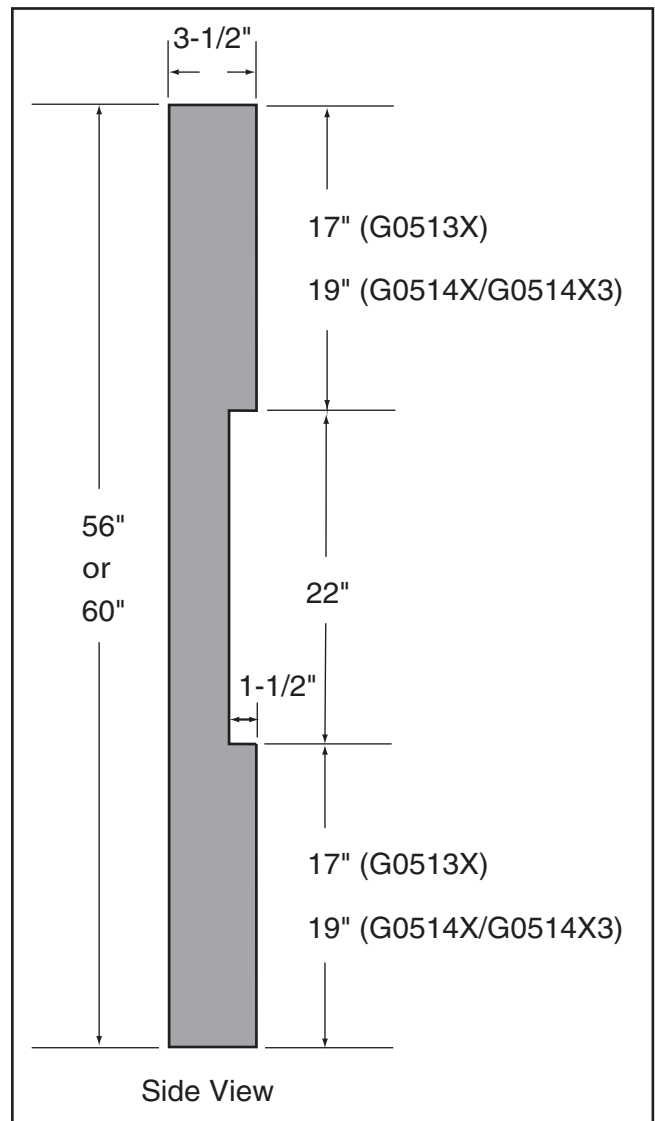

Figure 62. Dimensions of coplanarity gauge.
| Coplanarity Gauge (see Figure 62) | 1 |
1. Make the "Coplanarity Gauge" shown in **Figure 62**. **Note:** For best results, straighten the 2x4 with a jointer before cutting.